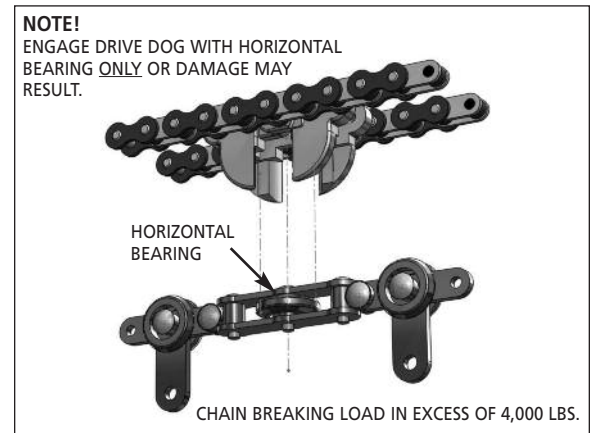

Figure 11
- Feed the chain into the drive unit making sure the horizontal bearing engages the drive dog as shown in **Figure 11**. Damage will result if this is not done properly.